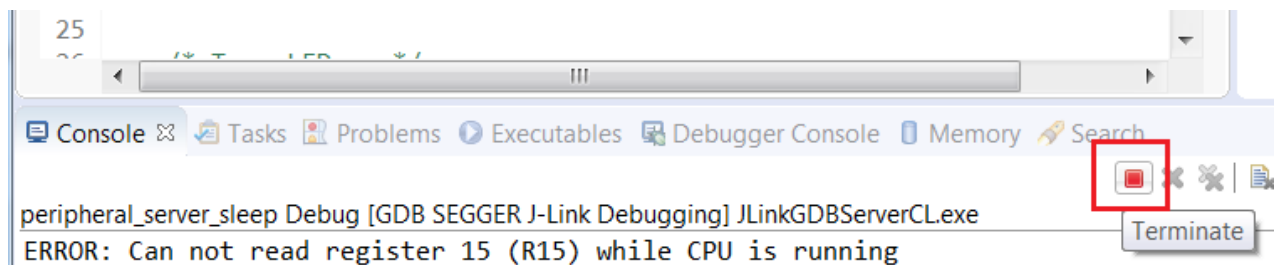

Figure 52. Terminate Targets Icon
7. Stop the debug session and click on the Terminate icon to remove all terminated targets (see the figure "Terminate Targets Icon" (Figure 52)).